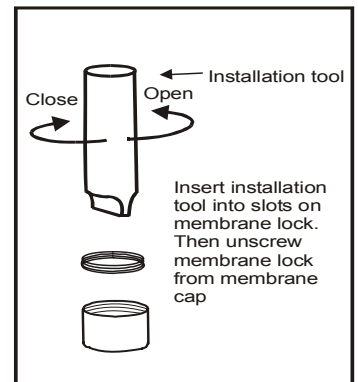

Figure 93: Use Tool to take out (or put in) membrane
4. Using the installation tool, unscrew and remove the membrane lock from the membrane cap. See Figure 93 on the following page.